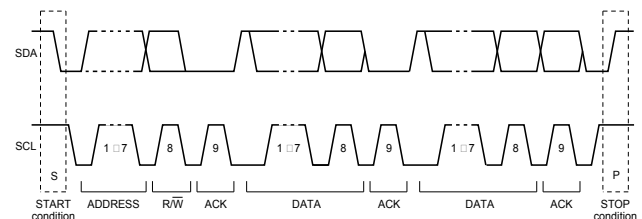

FIGURE 8. A Complete Data Transfer
Data transfers follow the format shown in Fig. 8. After the start condition (S), a slave address is sent. This address is 7 bits long followed by an 8th bit, which is a data direction bit (R/W). A '0' indicates a transmission (write); a '1' indicates a request for data (read). A data transfer is terminated always by a stop condition (P) generated by the master. However, if a master still wishes to communicate on the bus, it can generate a repeated start condition (Sr) and address another slave without first generating a stop condition.